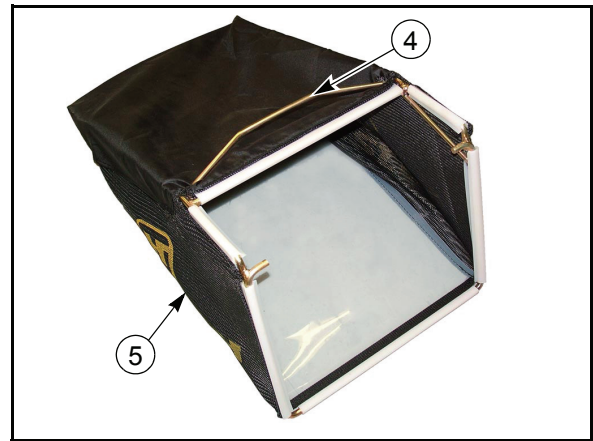
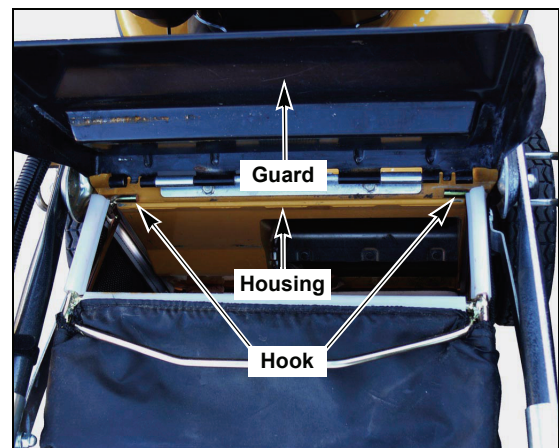

Fig. 4-11
Fig. 4-12
5. Place the catcher bag ⑤ onto the frame ④. Fig. 4-11. Attach the catcher to the mower. Lift the guard and set the hooks of the catcher on the housing of the mower. To remove the catcher reverse the previous procedure. Fig. 4-12